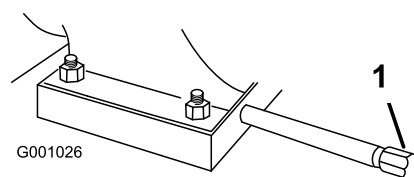

Figure 51
1. Clean the area around the oil-drain cap (Figure 51).